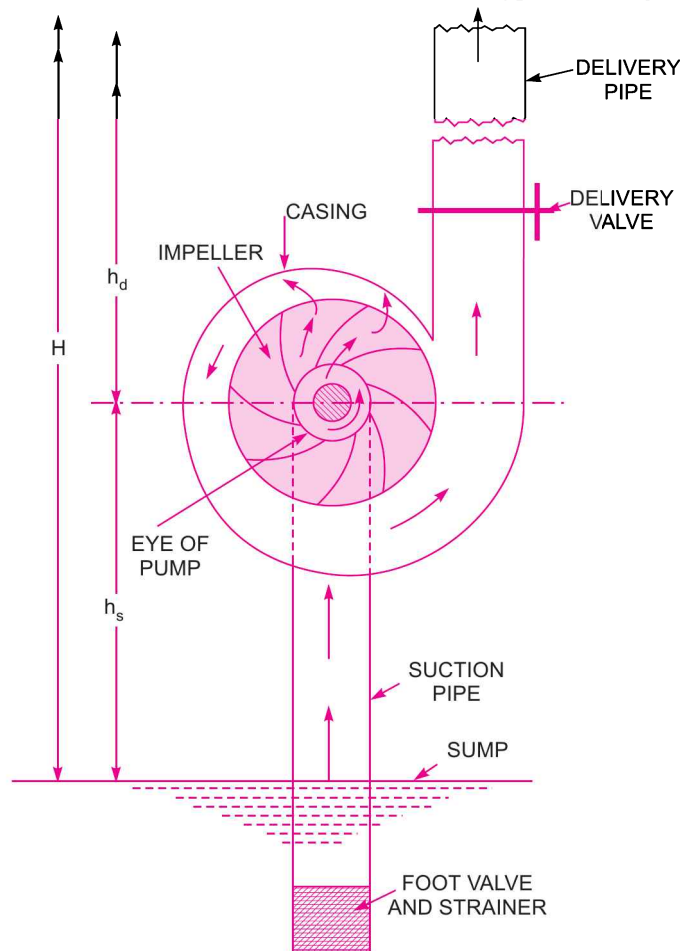

Fig. 19.1 Main parts of a centrifugal pump.
All the main parts of the centrifugal pump are shown in Fig. 19.1.
- (a) Volute casing as shown in Fig. 19.1.
(a) **Volute Casing.** Fig 19.1 shows the volute casing, which surrounds the impeller. It is of spiral type in which area of flow increases gradually. The increase in area of flow decreases the velocity of flow. The decrease in velocity increases the pressure of the water flowing through the casing. It has been observed that in case of volute casing, the efficiency of the pump increases slightly as a large amount of energy is lost due to the formation of eddies in this type of casing.
1. Suction Head (h_s). It is the vertical height of the centre line of the centrifugal pump above the water surface in the tank or pump from which water is to be lifted as shown in Fig. 19.1. This height is also called suction lift and is denoted by ' h_s '.